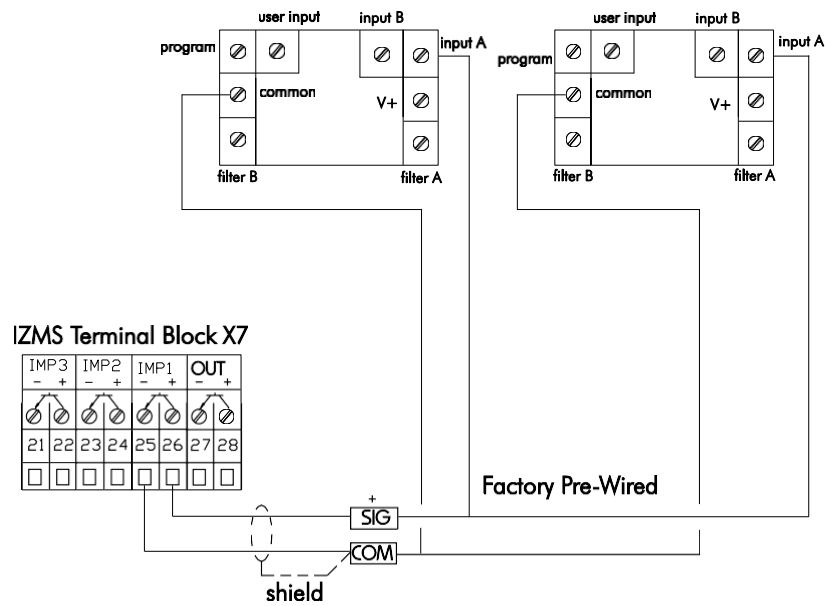

Figure 3-14. RT-50-2 Dual Rate/Total Indicator Signal Wiring Configuration
- RT-50-2 Dual Rate/Total Indicator (Figure 3-14)